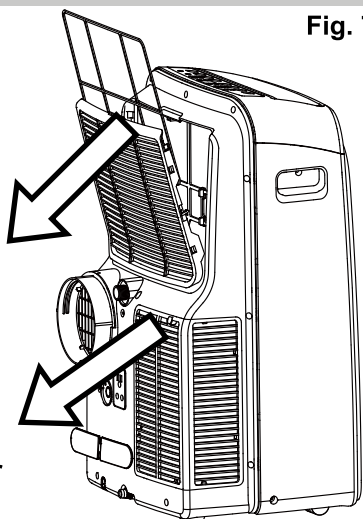

Fig. 7a
- Switch off the air conditioner and remove the washable pre-filter and activated carbon filter from the unit (Fig. 7a and 7b)
- Remove the lower filter by loosening the screw and taking down the air inlet grille. (Fig. 7a)